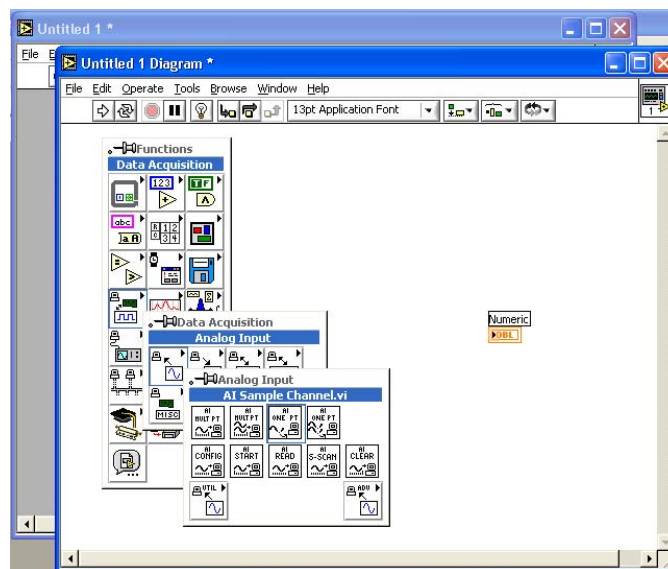

Figure 2.3.27. LabVIEW Diagram panel, and different menus.
3. On the gray **Front Panel**, select **Window**, then **Show Diagram** on the pull-down menu (or go Ctrl E). The **Diagram** panel should be white, and you should see the back of the **Numeric Indicator**. Right click on the white panel to pop up the **Functions** menu, and select **Data Acquisition -> Analog Input -> AI Sample Channel.vi**, as in Figure 2.3.27.